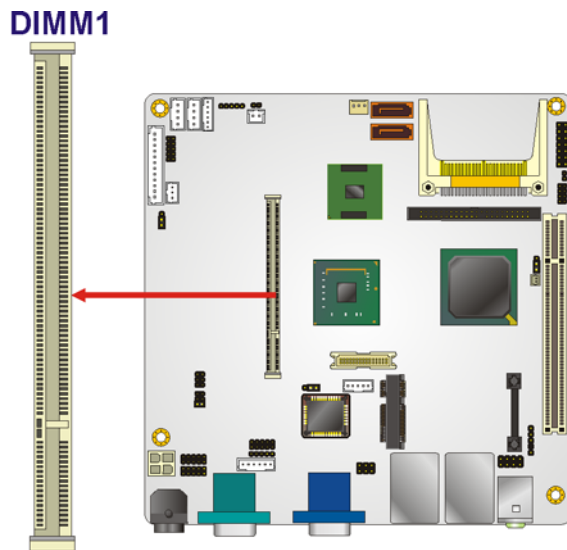

Figure 4-20: SO-DIMM Location
- CN Location:** See **Figure 4-20**